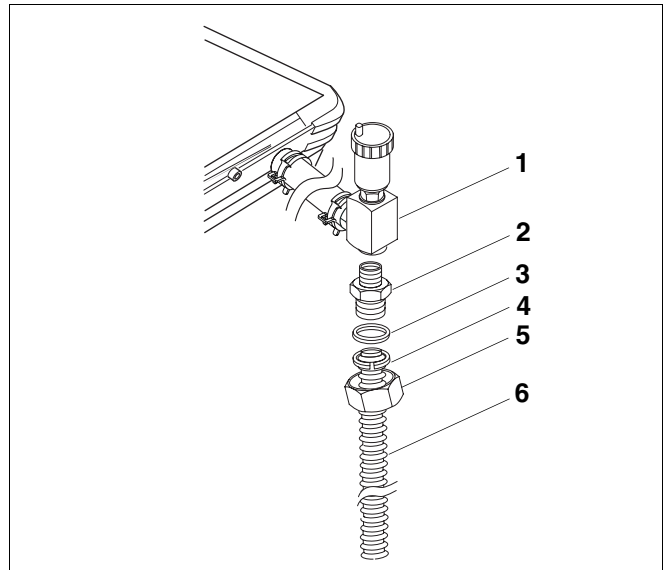

Fig. 3 Install the corrugated stainless steel hose on the flow.
- Thread the reducer Rp $\frac{3}{4}$  × R1 (Fig. 3, **item 2**) into the air vent valve (Fig. 3, **item 1**).
- Insert the gasket (Fig. 3, **item 3**) as shown in the graphic illustration.
- On the corrugated stainless steel hose thread the (Fig. 3, **item 6**) pre-assembled union nut Rp1 (Fig. 3, **item 5**) onto the reducer Rp $\frac{3}{4}$  × R1 (Fig. 3, **item 2**).